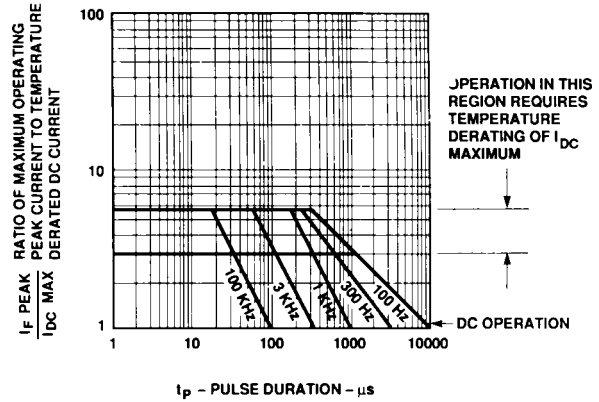

Figure 7. Maximum Tolerable Peak Current vs. Pulse Duration - Yellow Series.
5. See Figure 7 to establish pulsed conditions.